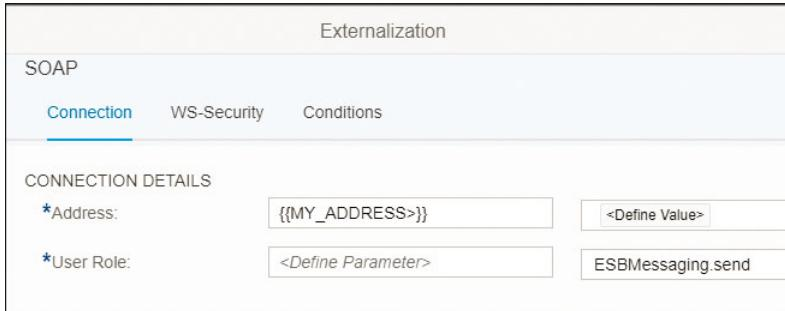
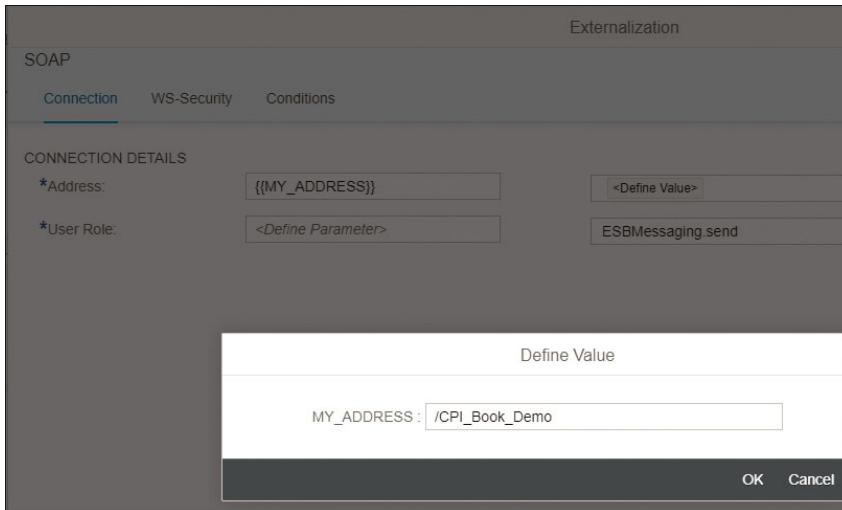

Figure 4.31 Creating a New Parameter in the Externalization Editor
Figure 4.32 Defining a Value for an Externalized Parameter
3. A new screen pops up with the **Externalization** editor, as shown in Figure 4.31. Note that the **Externalization** editor presents all possible configurations of the component that is selected. Let's now create a new parameter on the **Address** field. For
4. The parameter is defined using the format `{}<parameter>`. In our case, let's add a new parameter with the name `{}{MY_ADDRESS}`, as shown in Figure 4.31.
5. The next step is to create a value for the externalized parameter by clicking on the `<Define Value>` tag shown in Figure 4.31. The **Define Value** option appears as soon as you've created an externalizable parameter. You then get a new popup screen with the possibility to define a value for the `{}{MY_ADDRESS}` externalized parameter (see Figure 4.32). Fill in `/CPI_Book_Demo` as its new value.